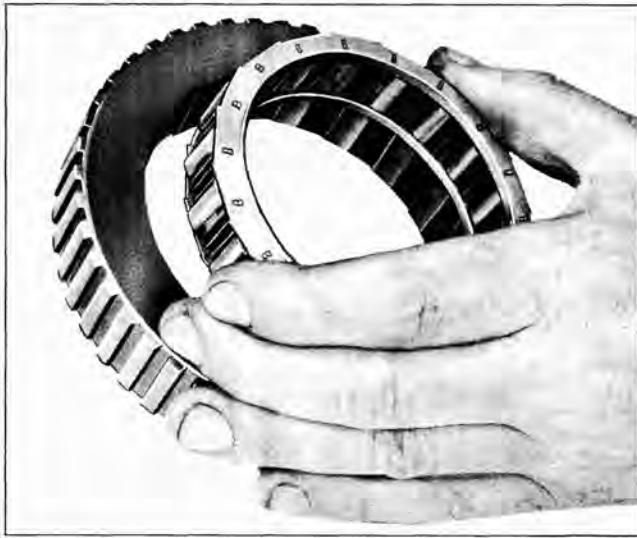

Fig. 95 Install Roller Assembly in Outer Race
3. Carefully, install the roller clutch assembly into the outer race so that the rollers do not pop-out. The teeth or stops on the cage should align with the ramps in the outer race. (Fig. 95).